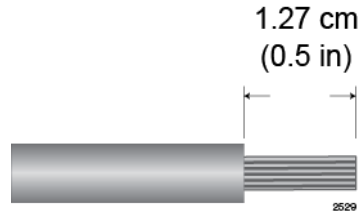

Figure 138. Stripping the Power Wires
1. Prepare adequate lengths of two stranded 8 AWG power wires by stripping them as shown in Figure 138 on page 218.